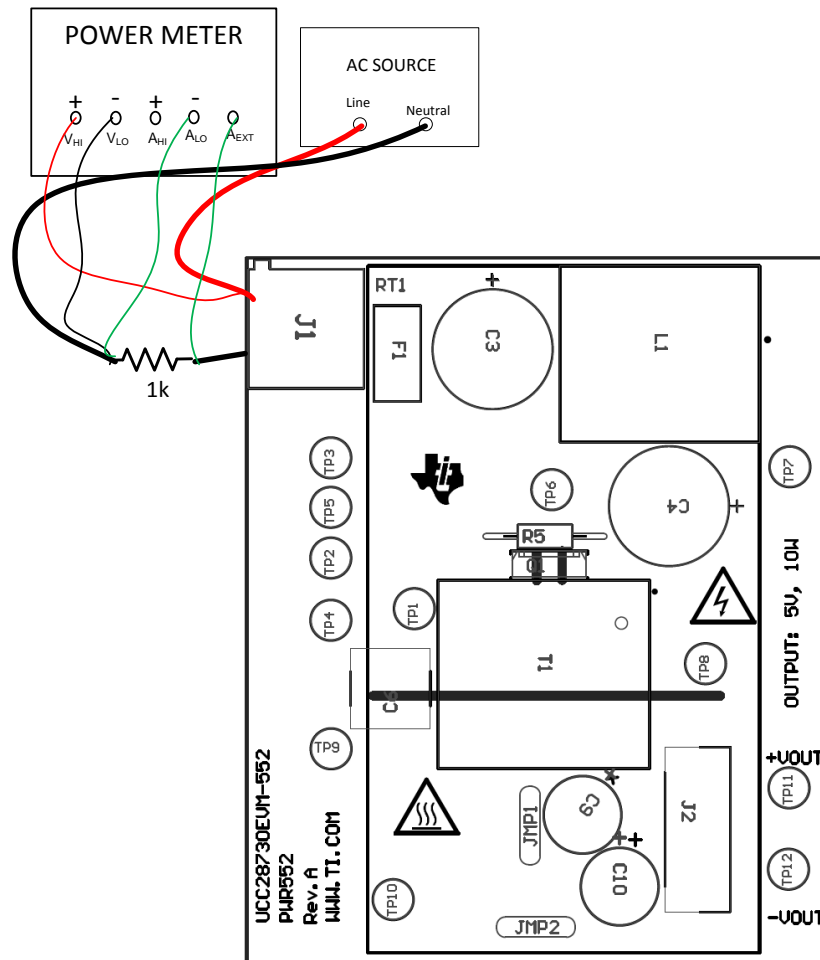
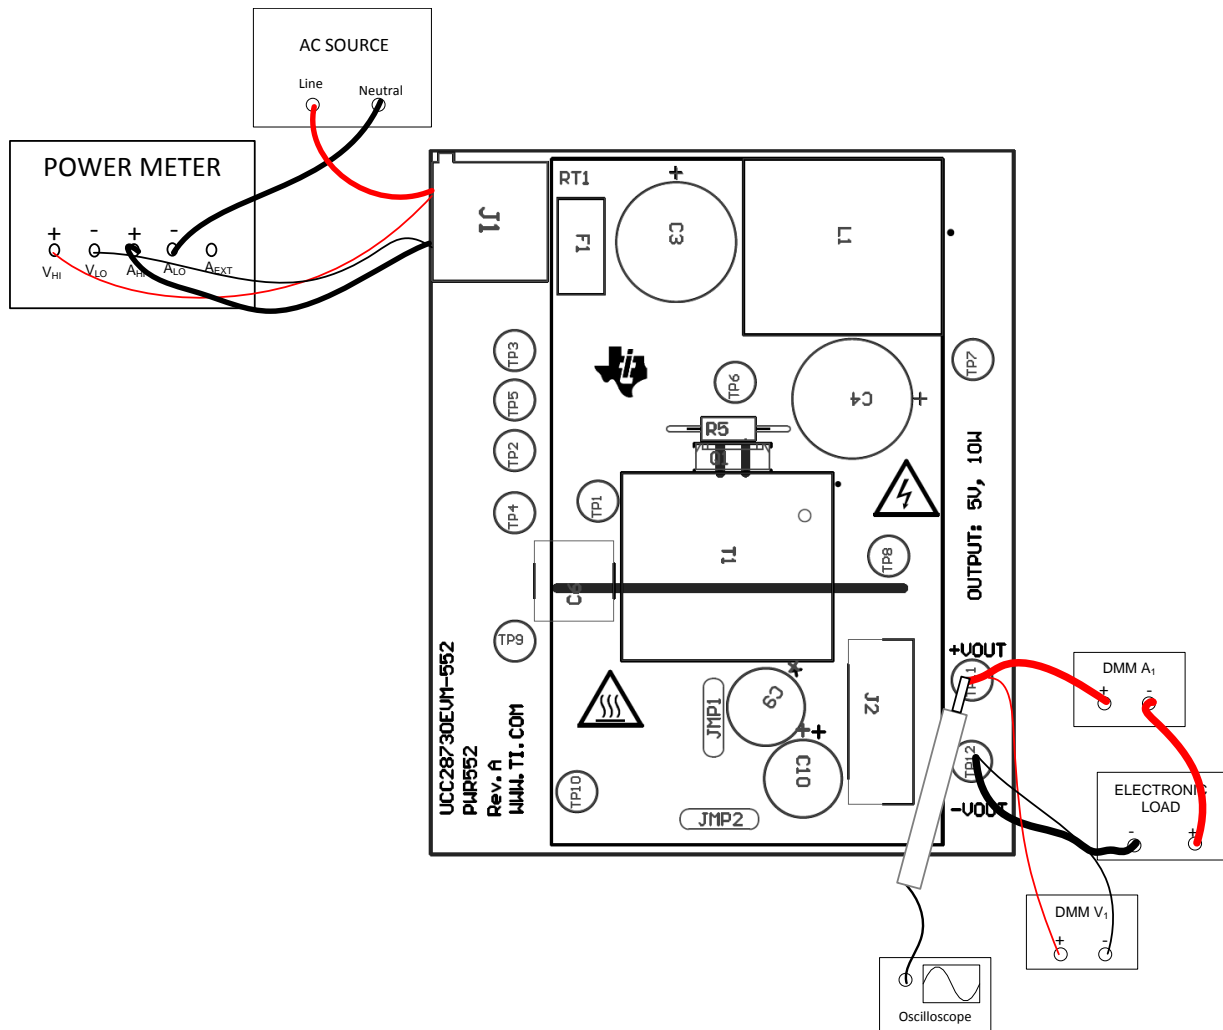

Figure 2. UCC28730EVM-552 Recommended Test Set Up For No-Load Operation
Figure 3. FUC28730EVM-552 Recommended Test Set Up With Load
Figure 2 shows the equipment set up when measuring the input power consumption during no-load operation. Note the addition of the 1-k $\Omega$  shunt resistor in Figure 2. During the no-load test, set the power analyzer for long averaging mode in order to include several cycles of operation. Use an appropriate current scale factor for the external shunt. Due to the extremely low measured values, placement of the shunt is critical and should be positioned right at the input terminals of the EVM. Figure 3 shows the recommended test equipment set up to evaluate the UCC28730EVM-552 with a load.
**AC Voltage Source:** For an input source, use an isolated variable AC source capable of supplying between 85 VAC and 265 VAC at no less than 20 W and connected as shown in Figure 2 and Figure 3. For accurate efficiency calculations, insert a power meter between the neutral line of the AC source and the Neutral terminal of the EVM. For highest accuracy in loaded conditions, connect the voltage terminals of the power meter directly across the Line and Neutral terminals of the EVM. For highest accuracy at no-load, connect the V+ voltage terminal of the power meter at the Line terminal of the EVM and the V- terminal of the power meter ahead of the shunt resistor (refer to Figure 2).
**Power Meter:** Use a power analyzer capable of measuring low input current, typically less than 1 mA, and a long integration mode, when low power standby mode input power measurements are taken. An example of such an analyzer is the Voltech PM100 Single Phase Power Analyzer. An external precision 1-k $\Omega$  shunt, with a current scale factor of 100000 mV/A, was used. The power analyzer was set to integration mode over 6 minutes for a reading of mW-hour in order to display one-tenth the averaged results (refer to Figure 2).
**Multimeters:** For highest accuracy, VOUT can be monitored by connecting a DC voltmeter, DMM V1, directly across the VOUT+, TP 11, and VOUT-, TP12, as shown in Figure 3. Place a DC current meter, DMM A1, in series with the electronic load for accurate output current measurements.
1. Set up the EVM as shown in Figure 2 if testing at no-load, or Figure 3 if testing with a load.
1. Use the test set up shown in Figure 2. Careful placement of the shunt resistor is required.
1. For load regulation, use the test set up shown in Figure 3.
2. For line regulation, use the test set up shown in Figure 3.